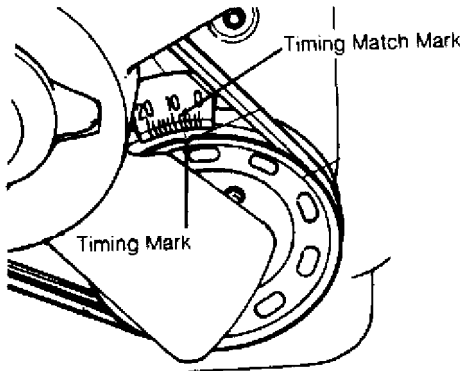

Fig. 1: Locating Ignition Timing Mark
1) Remove valve cover. Remove right inner fender apron extension to enable timing marks to be seen. Align crankshaft pulley timing mark with TDC mark on timing belt cover. See Fig. 1.
1) Ensure transmission is in Neutral or Park and parking brake is set. Inspect crankshaft pulley timing mark and timing mark indicator on timing belt cover. See Fig. 1. Clean marks as required. Start engine, and warm it to normal operating temperature. Turn engine off with ignition on for 5 seconds. Restart engine. Run engine at 2000 RPM for 5 minutes, and then return it to idle. Turn all accessories off. Attach timing light to No. 1 spark plug wire. Ensure idle speed is correct. See IDLE SPEED SPECIFICATIONS table under IDLE SPEED & MIXTURE.
- (1) - See Fig. 1 for timing mark location.
1) Ensure transmission is in Neutral or Park. Set parking brake. Inspect crankshaft pulley timing mark and timing mark indicator on timing belt cover. See Fig. 1. Clean marks as required. Start engine, and warm it to normal operating temperature. Turn all accessories off. Attach timing light to No. 1 spark plug wire. Ensure idle speed is correct. See IDLE SPEED SPECIFICATIONS table under IDLE SPEED & MIXTURE.